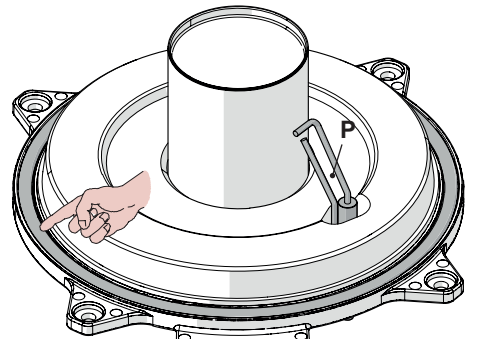

Fig. 10.12
- The silicon seal on the front wall of the combustion chamber Fig. 10.12 must be replaced if worn.
- The ignition/detection electrode "P" in Fig. 10.12 also functions as a sensor for the correct drainage of the condensate. Should the mentioned electrode come into contact with the condensate water present within the combustion chamber it sends the boiler into safety lockout. Therefore, should the insulation be wet or deteriorated, provide for the substitution of the same.
Caution: After any periodical servicing or disturbance the combustion chamber silicon seal Fig. 10.12 must be fully inspected and replaced at the discretion of the service engineer.